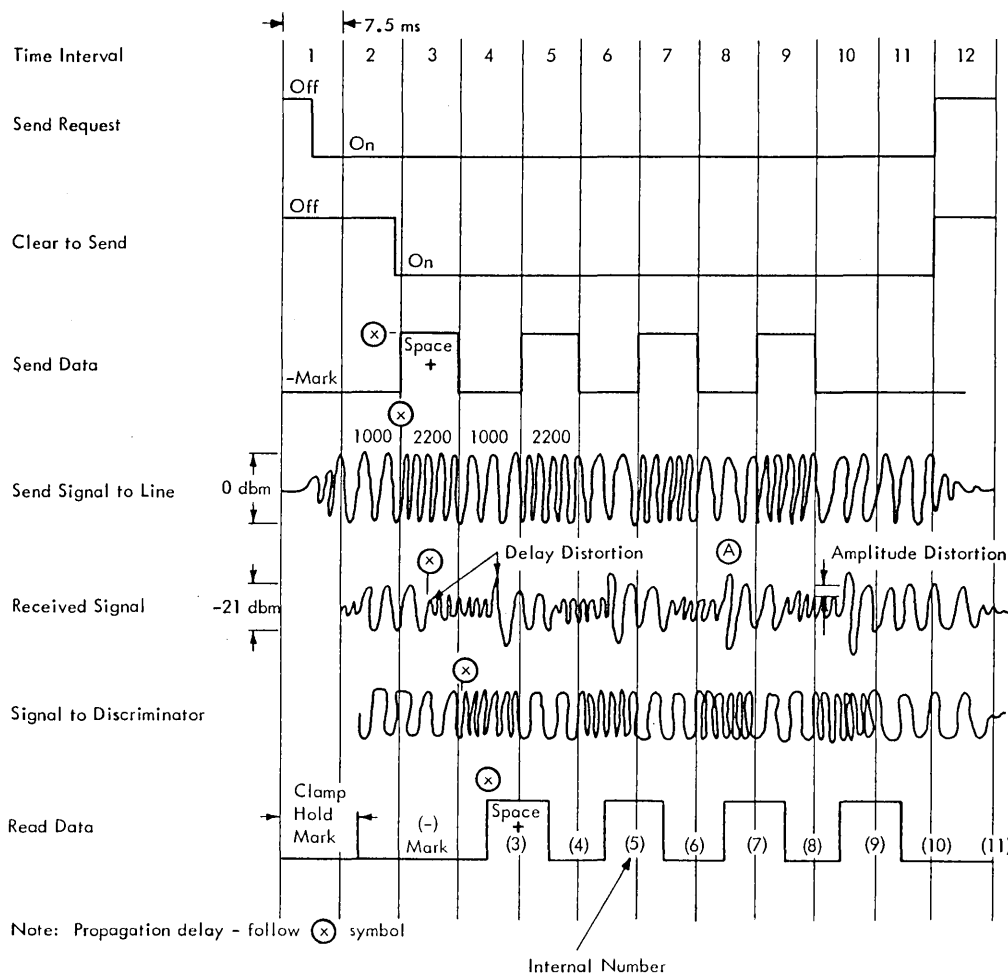

FIGURE 2-26. SIGNAL CORRELATION, IBM LINE ADAPTER
NOTE: The signal delay circuit also shapes the output of the discriminator to be sure that a uniform bit length is developed on the Received Data line. The Line Clamp signal from the line clamp timing circuit corresponds to a Data Carrier Detector function. For an analysis of the timing and signals characteristic of IBM Line Adapters, refer to Figure 2-26.
12. Refer to Figure 2-26 to answer the following: What line characteristic is responsible for the signal peak at (A) ?